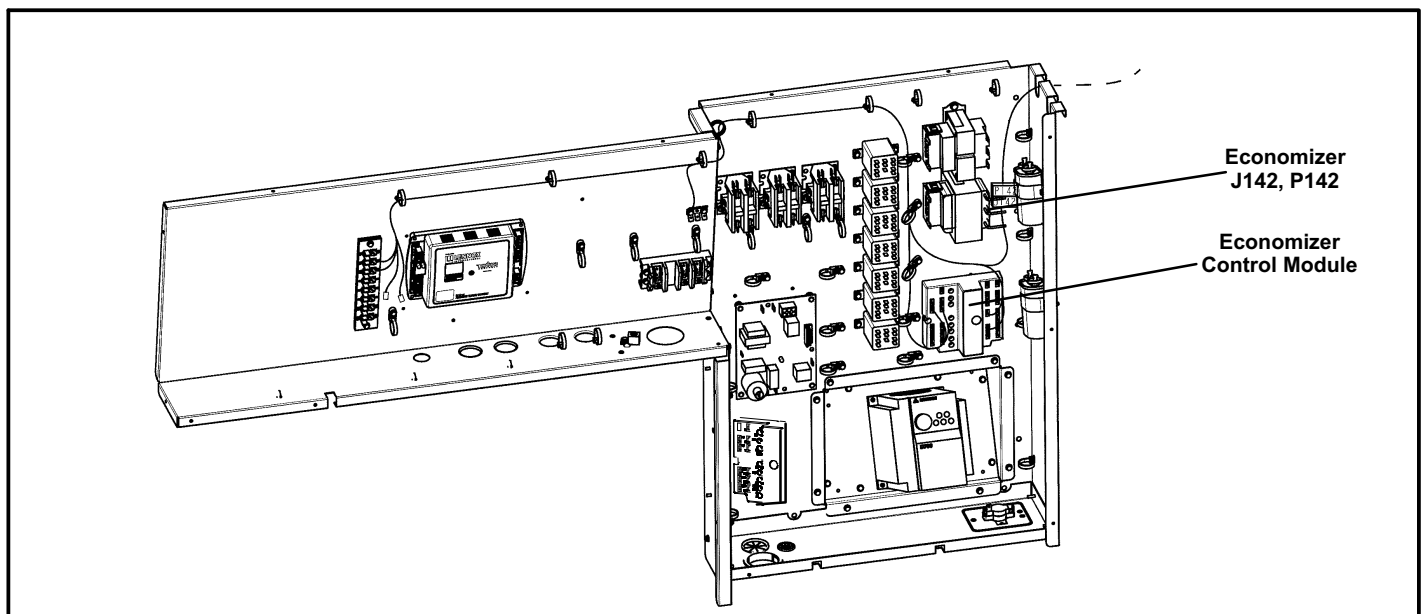

FIGURE 23
1- The economizer control module is located below the actuator for shipping. Relocate the control to the unit control box, see Figure 23.
- 2- Route the control wires to unit terminal block (TB1) and connect these wires to TB1 as following (see Figure 23 ):